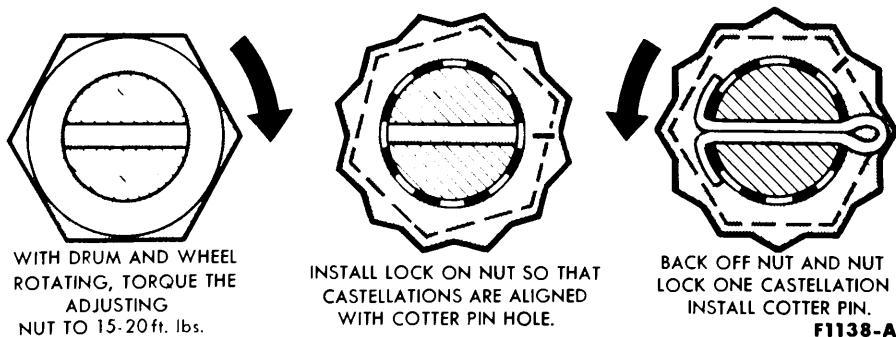

FIG. 2—Front Wheel Bearing Adjustment
The rear wheel hub and brake drum assembly is retained on studs on the rear axle shaft flange by three speed nuts (Part 3-2, Fig. 2). The
4. While rotating the wheel, hub, and drum assembly, torque the adjusting nut to 15-20 ft-lbs to seat the bearings (Fig. 2).